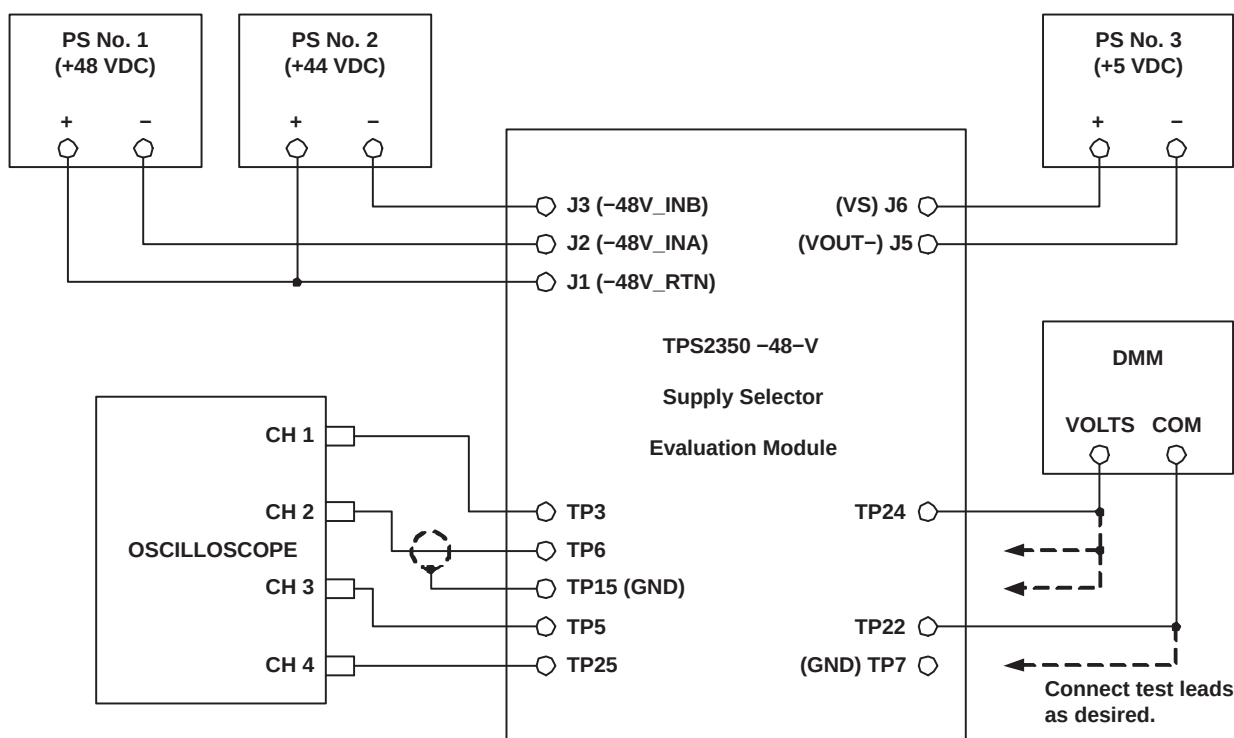

Figure 4. TPS2350 -48-V Supply Selector EVM Equipment Setup
Connect the EVM and test equipment as shown in Figure 4.
Supply connections to the EVM should be made to the banana jacks as shown in Figure 4. The two backplane, 48-V supplies (PS No. 1 and PS No. 2 in Figure 4) connect between J1 and J2 and J1 and J3, respectively. The polarity of the circuit is such that the HI or (+) outputs of the supplies connect to J1, -48V_RTN. The LO or (-) jacks connect to J2 (-48V_INA) and J3 (-48V_INB). PCB header J6 (VS) is used to connect an external pull-up source when using the MOD_EN output of the EVM. This supply is referenced to the VOUT- node at J5.
The EVM can be used to get an illustration of the relationship between current limit, inrush slew rate, load values, and the circuit's fault timing requirements. With DIP switch SW1-1 only closed, the fastest of the preset slew rates is selected, and only the hard-wired timing capacitor C6 is connected to the TPS2350 controller. However, this is sufficient to allow the bulk capacitor C8 to fully charge, from 0 V, across the full range of input supply voltages, down to -80 V. This can be observed by connecting input power as shown in Figure 4, displaying the VOUT- node on an oscilloscope, and enabling the device.